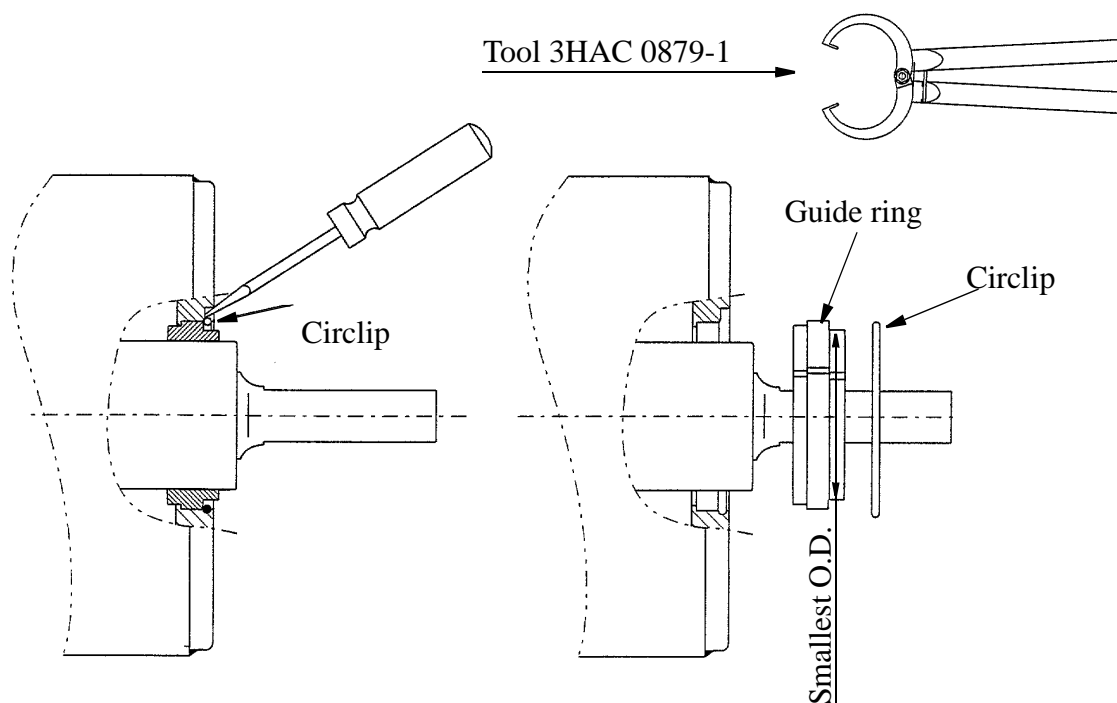

Figure 7 Guide ring, balancing unit.
- 2 Remove the circlip from the end cover of balancing unit. See Figure 7.
- 3 Remove the worn out guide ring and clean the piston rod. See Figure 7.
- 4 With the smallest outer diameter facing outwards, force the new guide ring over the piston rod. Use tool 3HAC 0879-1. Locate the ring in the end cover. See Figure 7